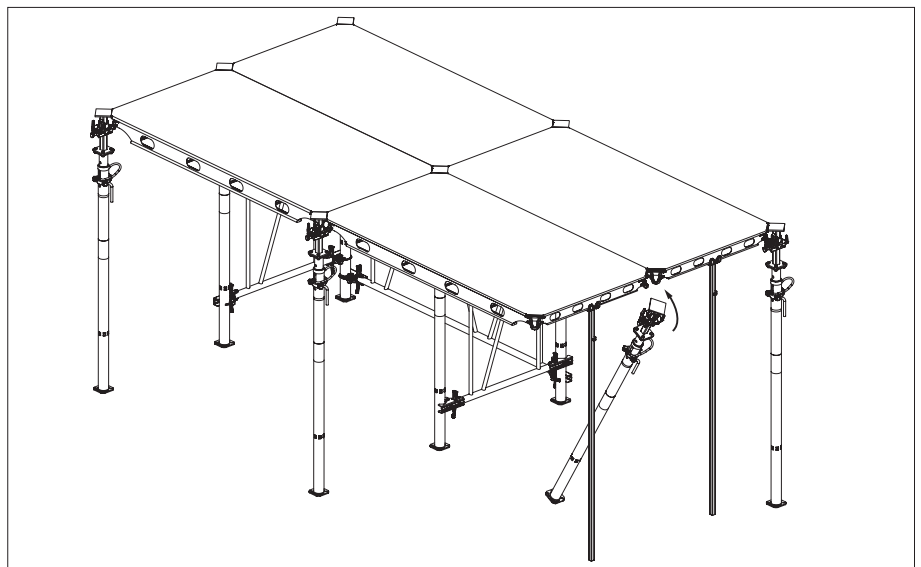

Fig. A5.13
6. Insert the prop into position with the wedge oriented in shorter direction for easy deshuttering. (Fig. A5.13)